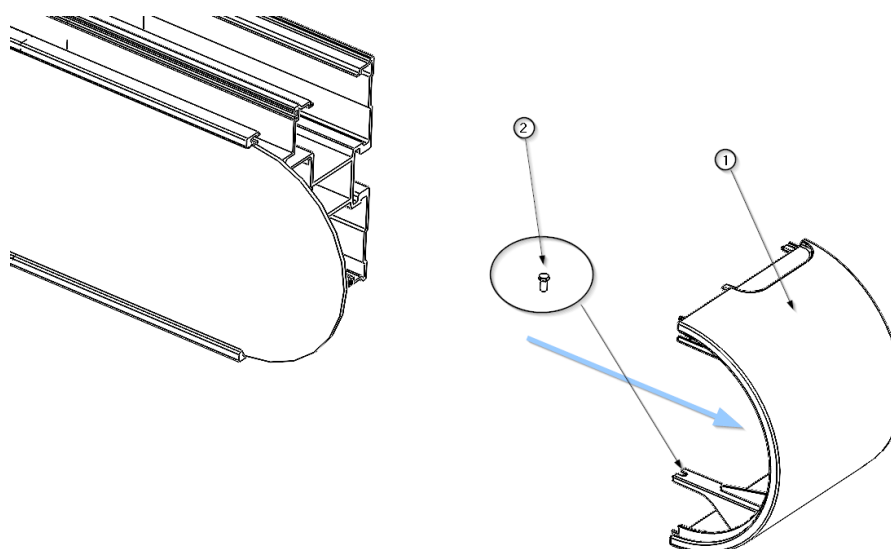
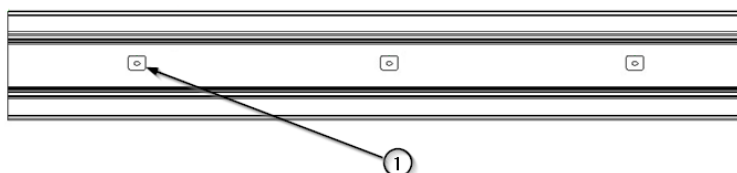

Fig. 5 Removal of side walls
Fig.6 ICARUS equipment anchor points
- Remove the M4 x 10 screw (2) DIN 7505 and slide the end cap (1) in the direction of the equipment chassis to remove it as shown in figure 5.
- To refit the end cap (1) simply push it into position in the direction of the chassis until the end cap stops and fit the fixing screw (2).
- Locate the equipment anchor points (1) indicated on the accompanying installation drawing (see Fig. 6).
- Fix the wall brackets (3) on which the equipment is to be suspended by matching the screw housing that will fix the equipment (2) with the positions indicated in figure 6 for the anchorage points (1) as shown in figure 7.
- Locate the equipment anchor points ① indicated on the accompanying installation drawing (see Fig. 6).
- Fix the wall brackets ③ on which the equipment is to be suspended by matching the screw housing that will fix the equipment ② with the positions indicated in figure 6 for the anchor points ① as shown in figure 7.